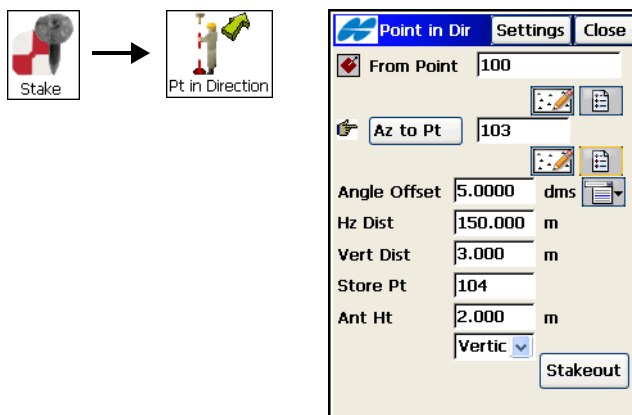

Figure 9-11. Stakeout Point & Direction
1. To perform a Point and Direction stakeout, tap **Stake ► Point in Direction** (Figure 9-11).
Enter the name of the stakeout point in the *Store Pt* field. Tap the **Stakeout** button (Figure 9-11 on page 9-8).